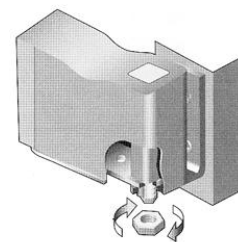

Fig 1
- Remove the locknut from the bottom hinge bracket (fig 1)